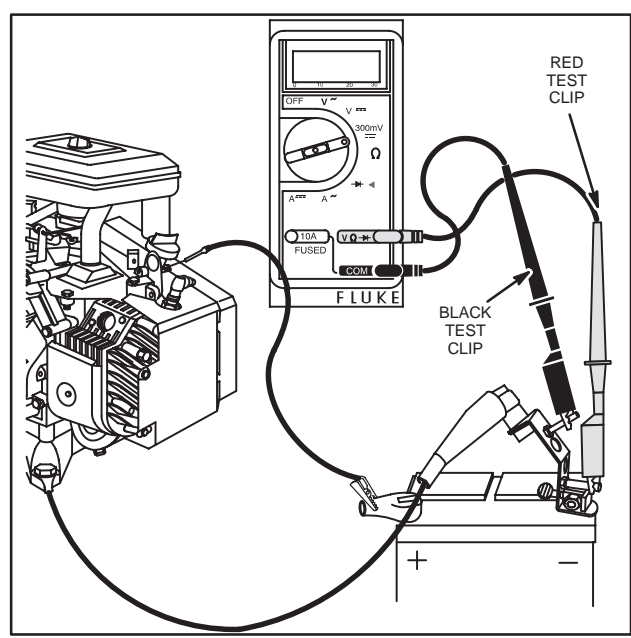

Fig. 26 – Testing Regulator-Rectifier
The DC Shunt **must** be installed on the **negative (-)** terminal of the battery, Fig. 26. All connections must be clean and tight for correct amperage readings.
2. Insert RED test lead into $V \Omega \rightarrow$ receptacle in meter and connect to RED post terminal on shunt, Fig. 26.